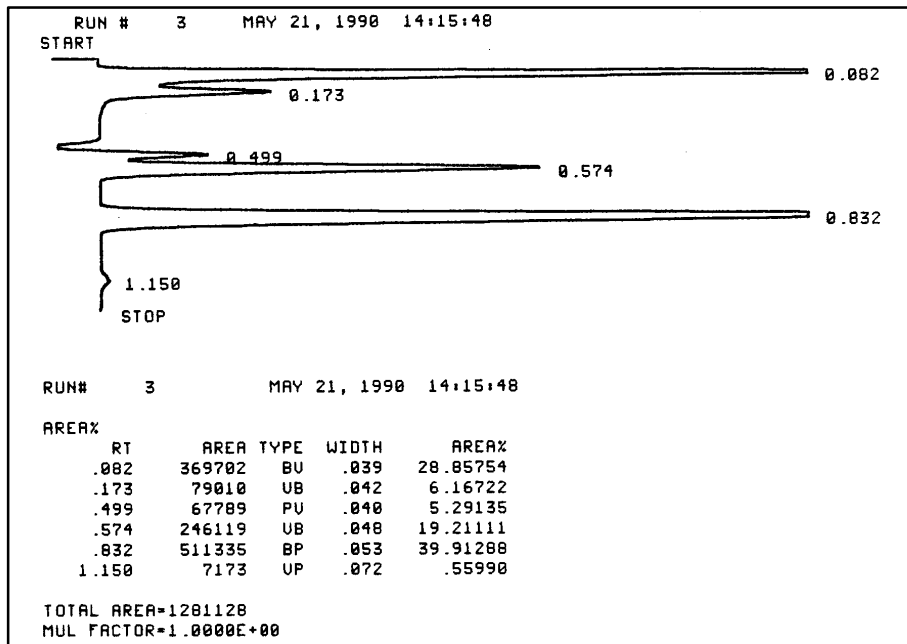

Figure 7-6. Example of Demo Chromatogram Test T
4. Press the [STOP] key to end the chromatogram after the peak marked with a retention time of 1.150 has been plotted. The demo chromatogram should resemble figure 7-6.